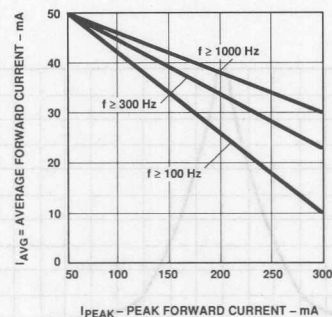

Figure 6. Maximum Average Current vs. Peak Forward Current.
2. Refer to Figure 6 to establish pulsed operating conditions.